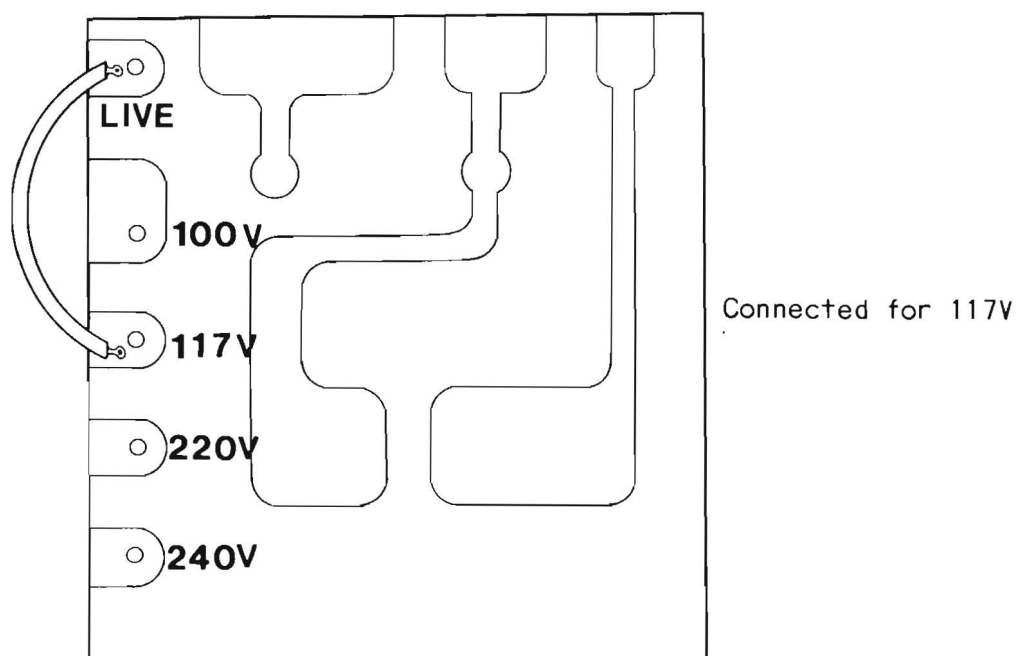

Figure 5-4 Voltage Selection Terminal
3. Resolder the lead wire of the voltage selection terminal on the supply reel Ass'y to the desired voltage terminal marked as shown in Figure 5-4.